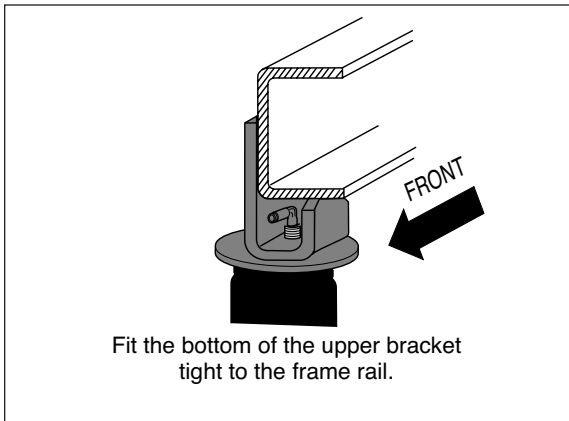

Figure 3
- To install the upper bracket, lower the axle or raise the frame until the upper bracket is in line with the lower and on the same angle as the leaf spring. The bottom of the upper bracket must fit tight to the bottom of the frame rail (Figure 3). The upper bracket must be parallel and perpendicular to the lower bracket. The upper bracket is designed so that it can be tilted for the proper angle.